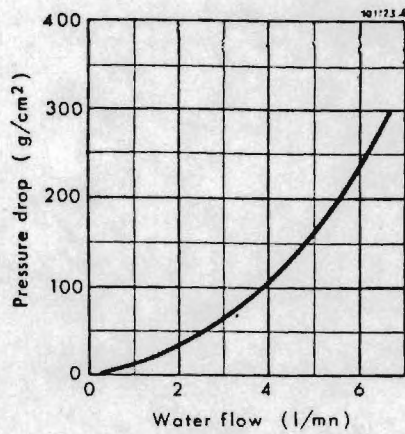

Fig. 2 - Cooling characteristic
- 1 — The anode-cooling water flow should be adjusted at 4 l/mn minimum. The curve of Figure 2 (page 5) indicates the corresponding pressure drop. If the cooling fails, the power should be automatically switched off by a safety device (thermoswitch), set for 70 °C (recommended value). An emplacement on the tube body has been provided for this device.*